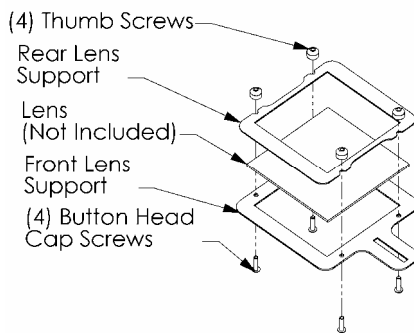

Figure 2
1. Using 1/8" Hex Key, secure 5" x 5" lens (not included) between the Front and Rear Lens Support Brackets. (Fig. 2)